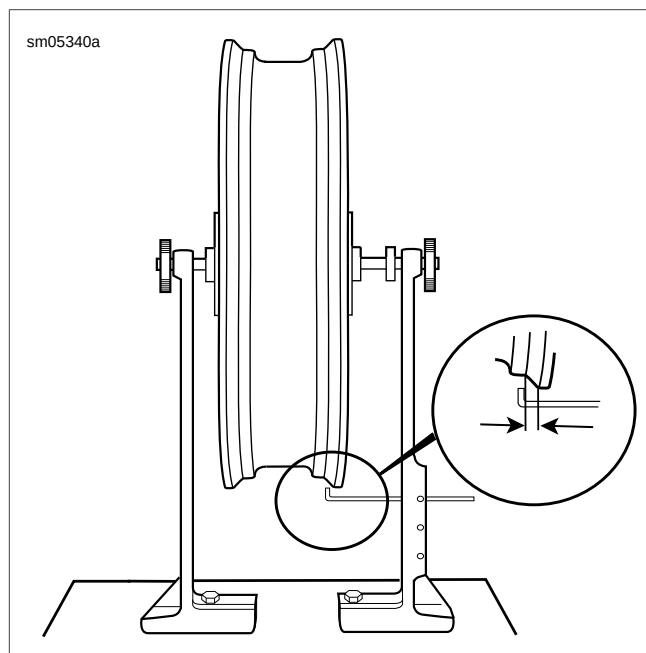

Figure 2-41. Lateral Runout
1. See Figure 2-41. Point the gauge rod or indicator at the rim bead flange.